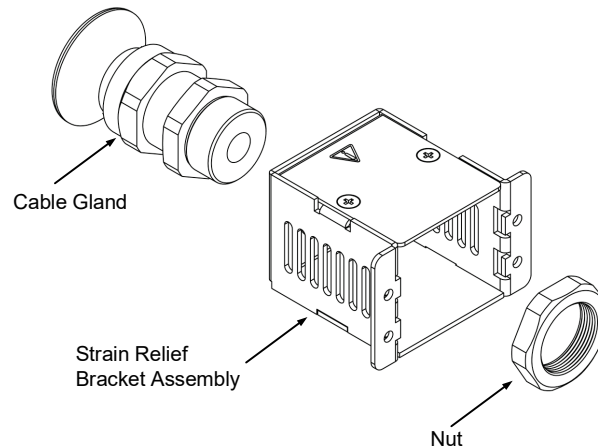

Figure 7-3: Insertion of the Plastic Nut into the Cable Gland
2. Insert the cable gland into the strain relief bracket assembly as shown in **Figure 7-3**.